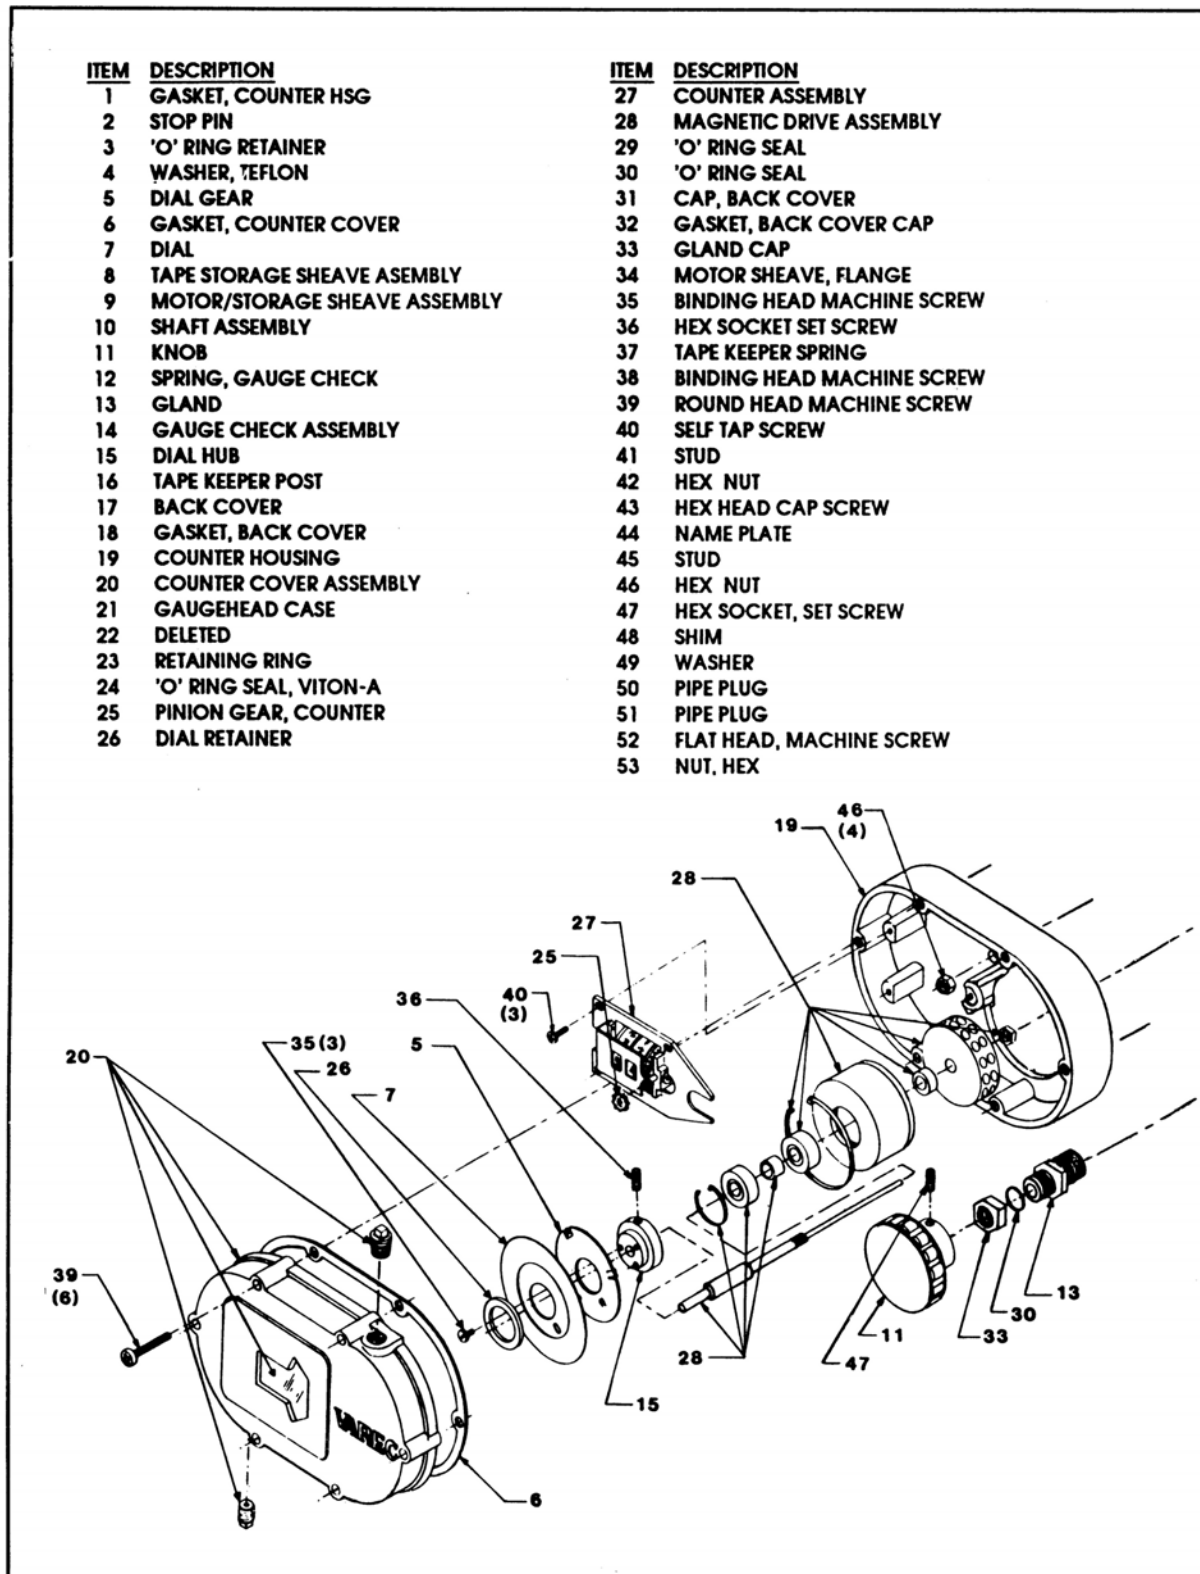

Figure 3-2: Exploded View of a Typical Gaugehead
16. Remove the back cover and gasket from the gaugehead (see Figures 3-2 and 3-3 on pages 15 and 16).
Figures 3-2 and 3-3 on page 16 show exploded views of a typical gaugehead.
1. See Figure 3-2 on page 15 and remove the cover from the counter mechanism of the gaugehead.
19. Remove the back cover and gasket from the gaugehead (see Figures 3-2 and 3-3 on pages 15 and 16).